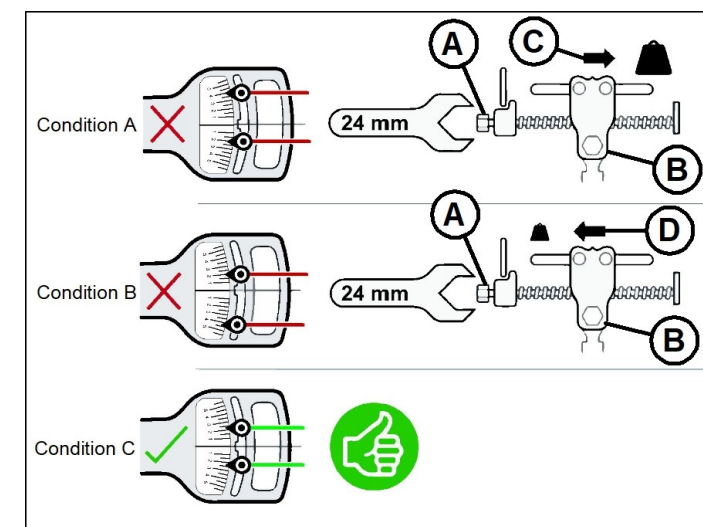

Figure 10: Wing Balance Adjustment
- On flex checker plate, pinch indicators (A) and (B) together with your fingers.
- Use tool (C) to rotate flex checker plate up until pin reaches the end of slot. The lower indicator (B) will move down to give the first reading.
- Use tool (C) to rotate flex checker plate down until pin reaches the end of slot. The upper indicator (A) will move up to give the second reading.
- Refer to Figure 10 and compare the two readings as follows: